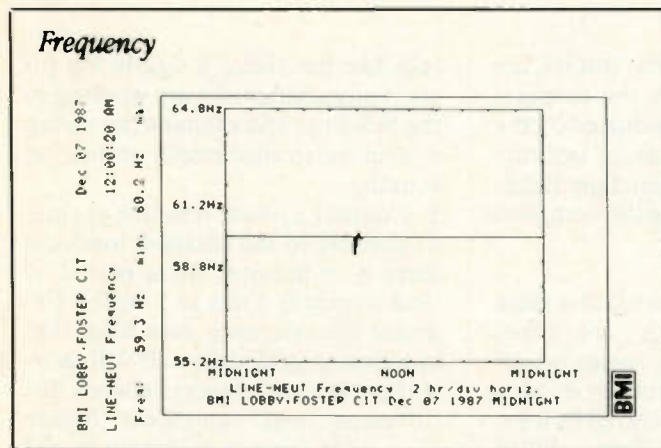

Figure 5.
4. Frequency disturbances may occur during electrical storms or utility brownouts. See Figure 5.